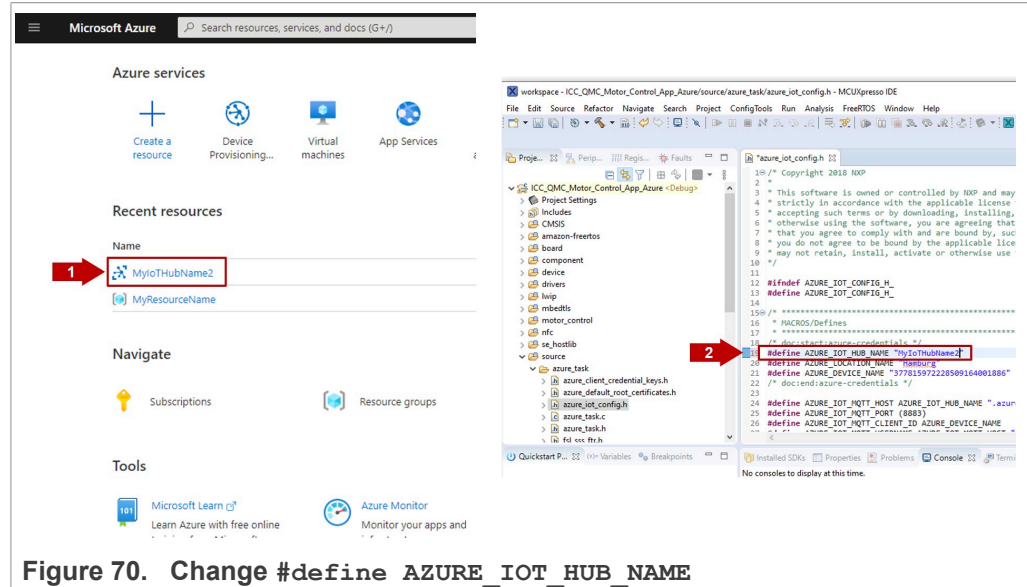

Figure 70. Change `#define AZURE_IOT_HUB_NAME`
- Modify the `#define AZURE_IOT_HUB_NAME` macro definition to add your Azure IoT Hub name created in Section 5.2 as shown Figure 70: